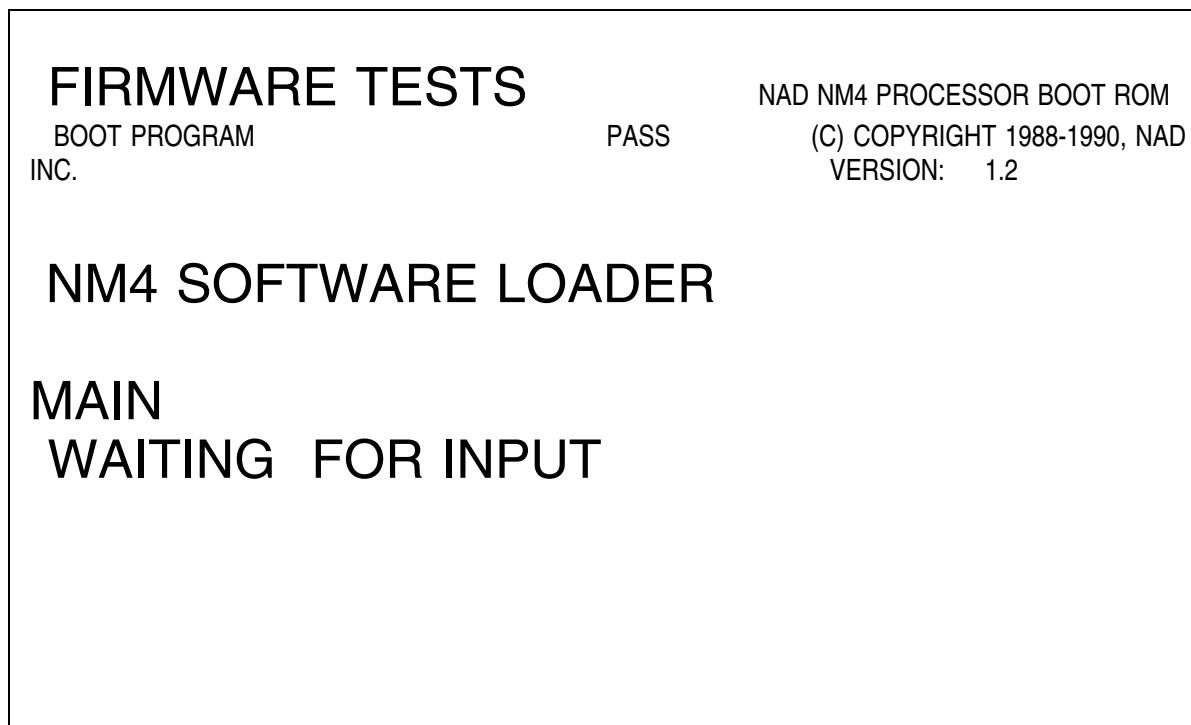

FIGURE 7-2: NARKOMED 4 LOAD MODE SCREEN
- 7.2.3 Press and hold the MONITOR SETUP and TREND keys, and turn the System Power switch to ON. Release the MONITOR SETUP and TREND keys when the load mode screen shown in Figure 7-2 appears.
- 7.3.3 Press and hold the MONITOR SETUP and TREND keys, and turn the System Power switch to ON. Release the MONITOR SETUP and TREND keys when the load mode screen shown in Figure 7-2 appears.